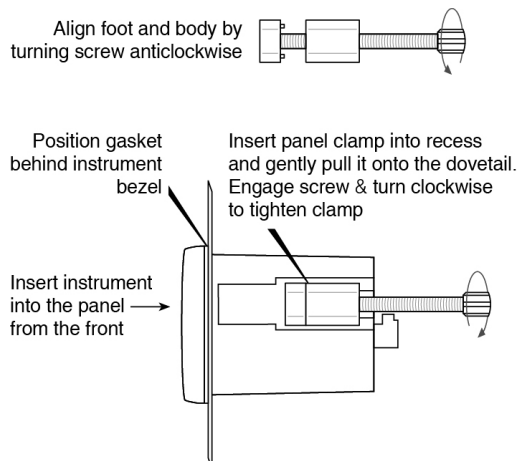

Fig 7 Fitting panel mounting clamps
- Place a clamp in the recess on each side of the instrument, pulling gently to slide it onto the dovetail as shown in Fig 7. Push the knurled screw slightly forward to engage the thread and tighten by turning clockwise until it is just finger tight. When the clamps are fitted ensure that the gasket behind the front panel bezel is correctly positioned before fully tightening the clamps to secure the instrument. The maximum recommended clamp tightening torque is 22cNm (1.95 lbf in) which is approximately equivalent to finger-tight plus one half turn. **Do not over tighten.**